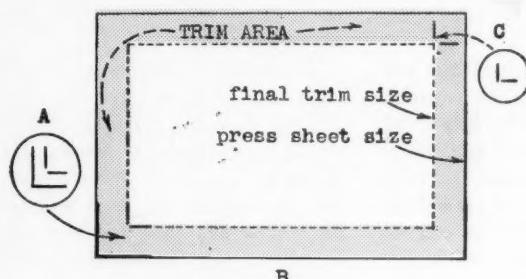

Figure 9
used. The use of this mark is illustrated in Figure 9. The mark itself is shown in 9(A) and on a press sheet
The single trim mark, Figure 9(C) is used at the corner of trim sizes. This mark resembles the press sheet marginal mark somewhat, but differs in that it does not join at the corners. Two regular cut marks ( $\frac{1}{8}$ " long) are positioned at each corner of the trim size, one pointing at each edge. Place the marks about  $\frac{1}{8}$ " back from the trim size."